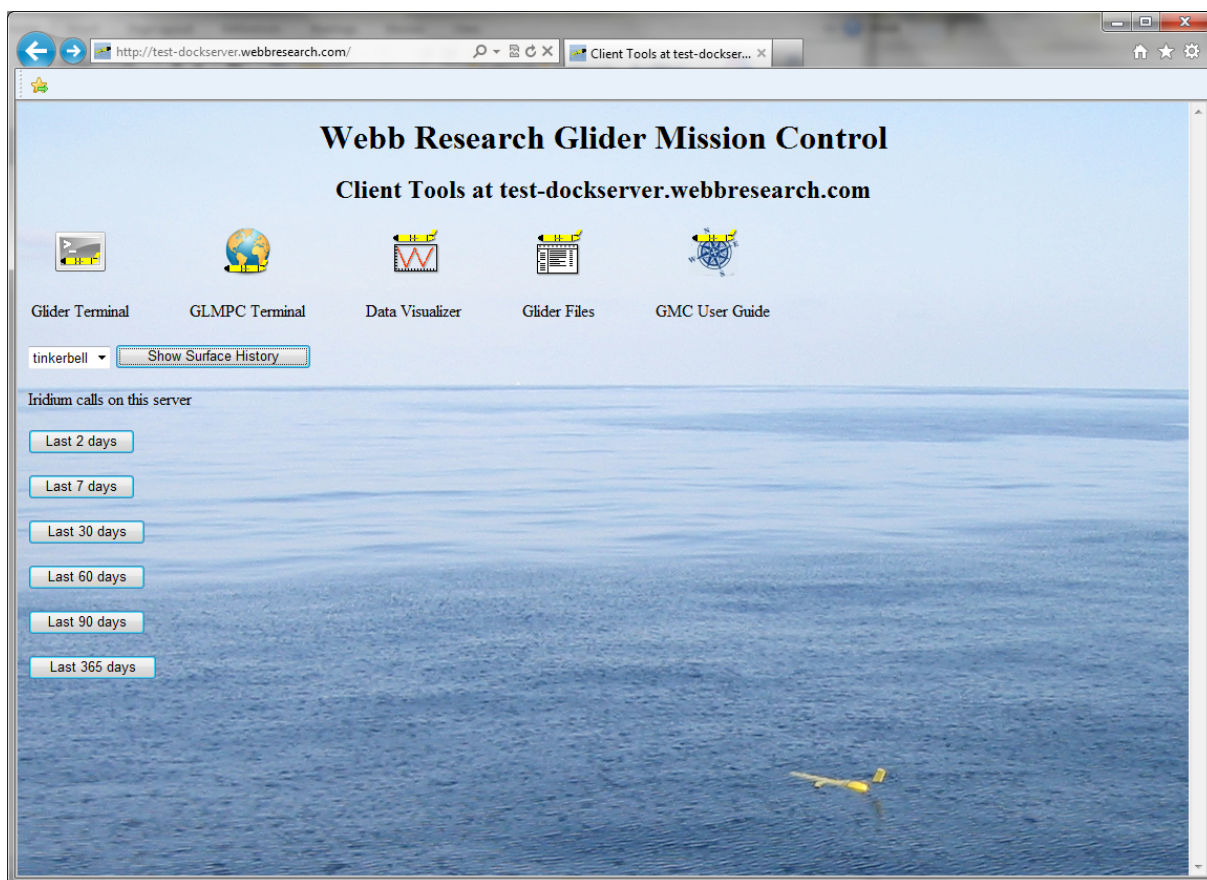

Figure 3-1. Dock Server Client Tools Web Page.
This upgrade behavior can be confusing to users. It can result in launching an old client tool release even though a new release is on the Dock Server machine. Thus, it is important to check that the release displayed in the client tool's title bar is the one you expect. If it is not the new release, let the old release run for five or more minutes, shut it down, and then restart it. The five minute wait should give Web Start enough time to find an upgrade if there is one. Thus, upon restarting the client tool, a dialog similar to figure 3-1 should appear to indicate that the upgrade is in-progress. Note that the upgrade can take several minutes to complete.
1. Open a web browser and browse to the URL `dock.webb.com` where your Dock Server's fully qualified domain name would replace `dock.webb.com`. Figure 3-1 shows the Dock Server's client tools web page.